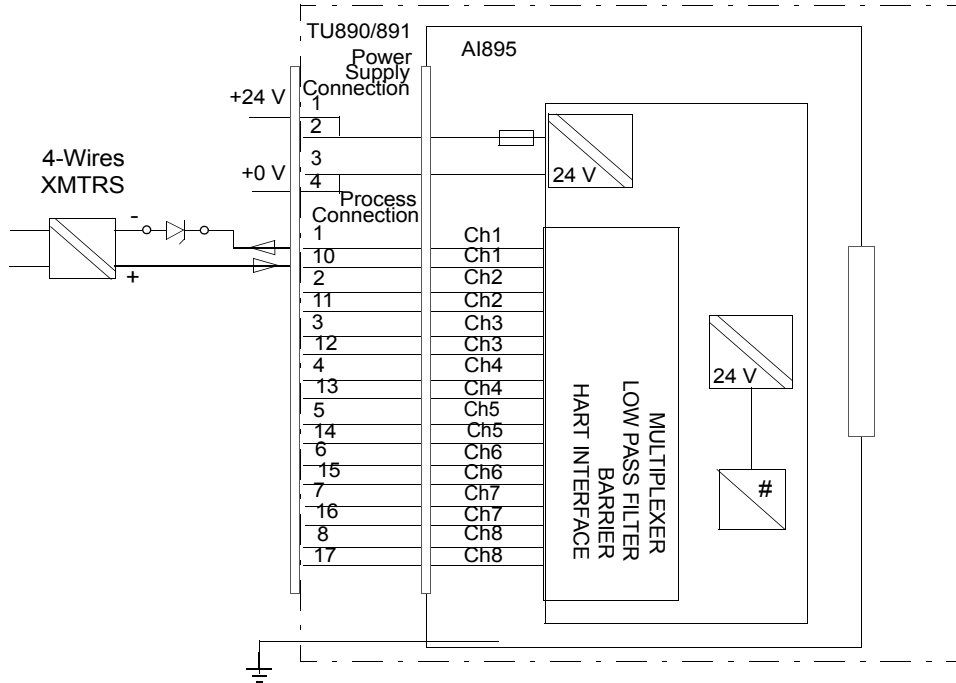

Figure 11. AI895 Connection of 4-Wires Transmitter
- Connection polarity must be observed as in Figure 11 (it is different to the standard 2-wire connection).